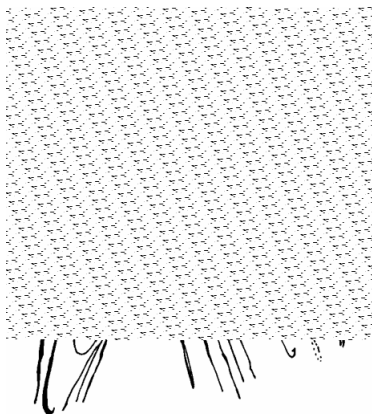

Figure 5
Step 7.) Step out from between the line groups and hold them in one hand. Clear the bottom seams of each cell with the "knife edge" of the hand. (See Figure 5.) This must be done between the "A", "B", "C", and "D" line groups. Clear the four seams of each cell to the left and right. After all the seams are cleared on each side of the canopy, clear the trailing edge between the control lines.